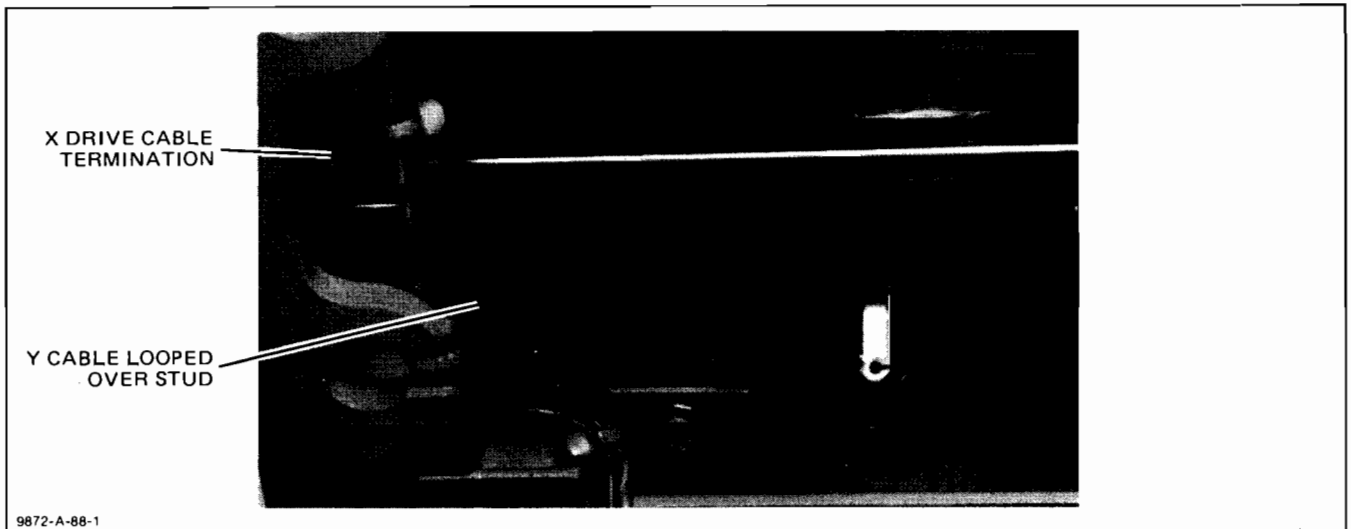

Figure 6-18. Cables Termination Bracket
- l. Unhook the Y-drive cable loop from the lower left stud. See Figure 6-18.